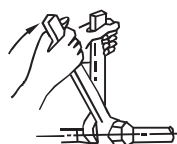

Fig.9-4
- Put the connecting tubing at the proper position, wrench the nuts with hands the fasten it with a wrench. (Refer to Fig. 9-4).
• **Expel the air with a vacuum pump (Refer to Fig. 9-4) (please refer to its manual for the way of using manifold valve)**